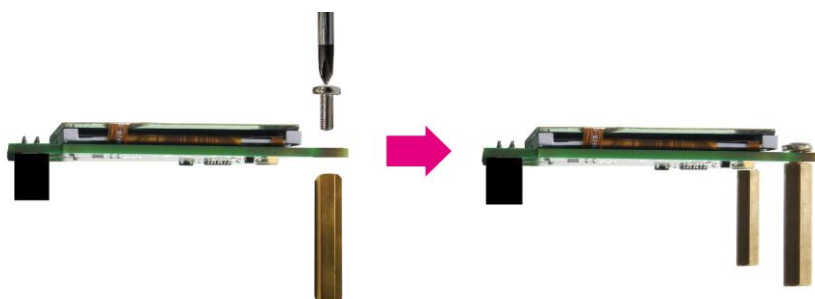

Figure 1-2 Install the hexagon copper pillars
1. Install the screw nuts from top to the bottom of screw holes reserved on the LT24. Install the hexagon copper pillars and make sure then are tightened up, as shown in Figure 1-2.